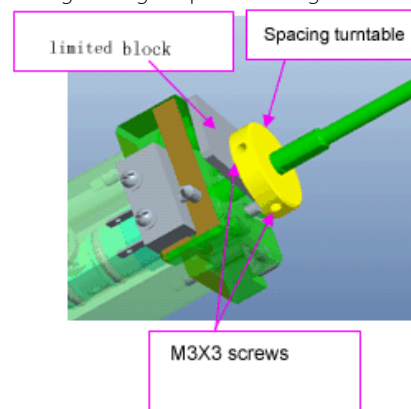

FIGURE 5-71
- b. Plug the assembling limited block (0632-J07) for needle valve in the middle. Fix the needle valve spacing turntable with two M3X3 set screws (dispensing thread sealant 243), see FIGURE 5-71. The screws are located inside the two threaded holes vertical to each other, The tightening torque is 4 to 5 kgf.cm.